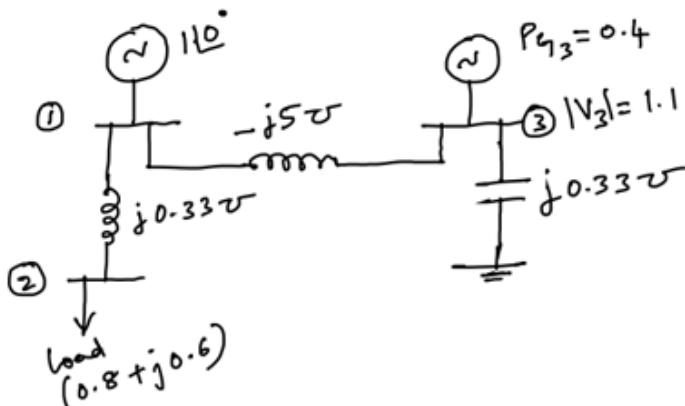

Fig 6(b)
b) For a power system shown in Fig 6(b) obtain Jacobian elements using NR method of load flow analysis.